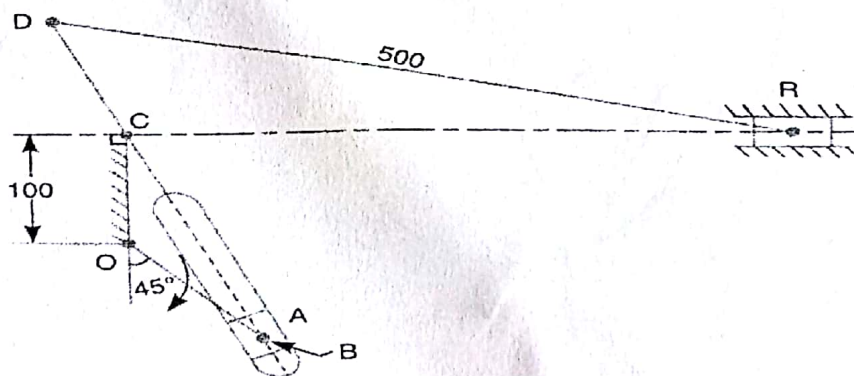

Figure 2
- Q2. In a Whitworth quick return motion, as shown in **Fig. 2**. OA is a crank rotating at 30 r.p.m. in a clockwise direction. The dimensions of various links are : $OA = 150$ mm; $OC = 100$ mm; $CD = 125$ mm; and $DR = 500$ mm. Determine the acceleration of the sliding block R and the angular acceleration of the slotted lever CA . All dimensions in mm.